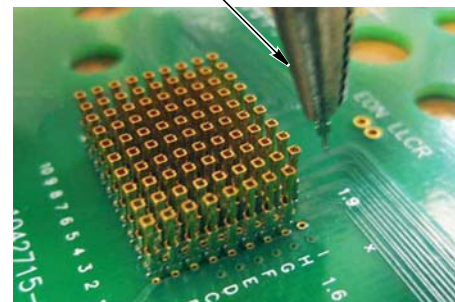

Figure 7
2. Using the needle-nose pliers, remove the contacts one at a time. Refer to Figure 7.